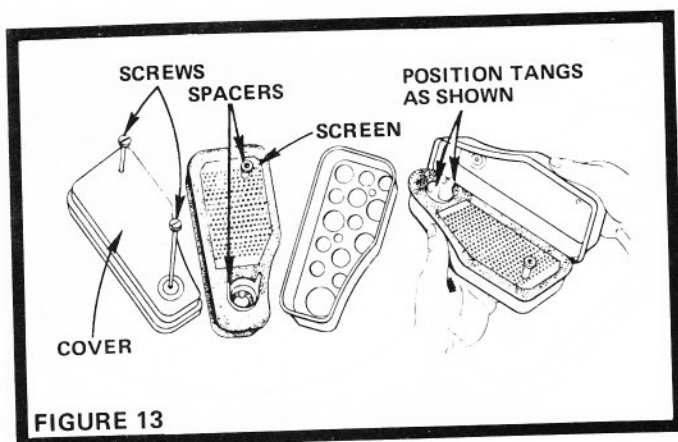

FIGURE 13
- Remove two Screws and lift off complete Air Cleaner Assembly (Fig. 13).